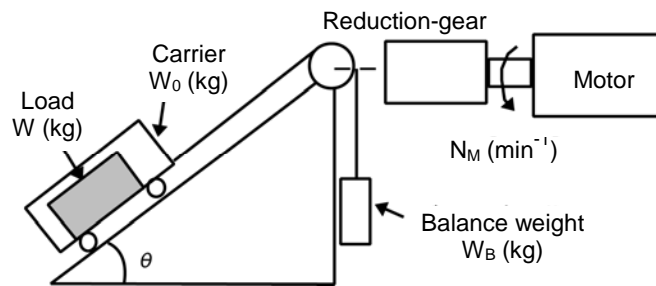

Figure 3.9 Inclined Lift Load
If the incline angle is  $\theta$ , and the friction coefficient is  $\mu$ , as shown in the figure 3.9, the driving force  $F$  (N) is expressed as follows: